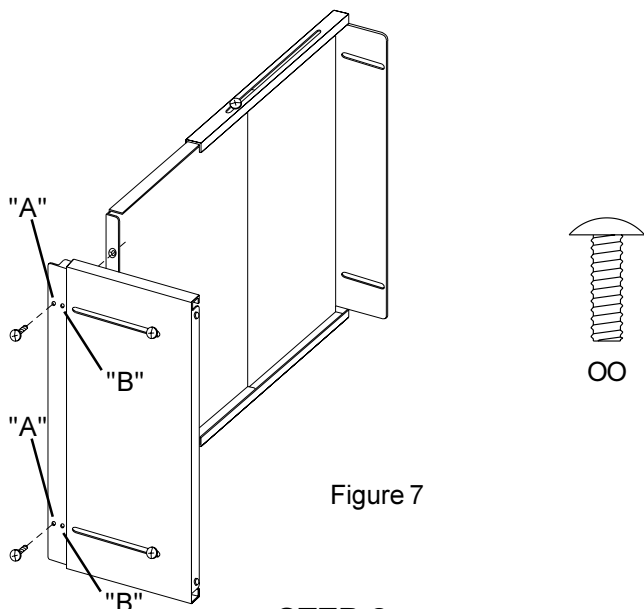

Figure 7
Assemble the upright and horizontal units as shown in Figure 7 (**Note:** When using the "A" holes, this will give a "flush corner". When using the "B" holes, this will give a "lip corner"). Install (2) 1/4-20 screws and tighten.